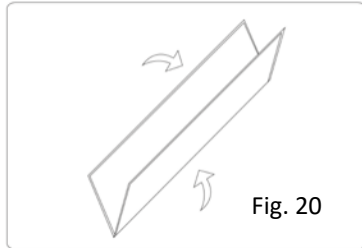

Fig. 20
4. Loosen and remove the ropes, *knob screws (E)* and *eyebolts (F)* from each leg.
6. Remove the frame *legs (B)* from the *folding frame (A)*.
7. Detach the *screen material (D)* from the *folding frame (A)* by carefully unsnapping each button as shown.
8. Fold **screen material (D)** in half, folding the bottom of the screen towards the top. Then, fold in half again in the same way. Lastly, fold the material into thirds to condense the length, see Fig. 20 – 22.